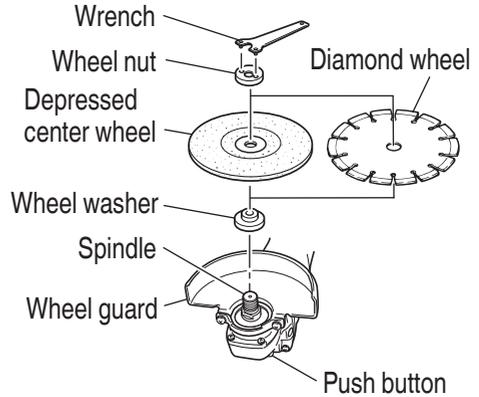

Fig. 8
ASSEMBLING AND DISASSEMBLING THE DEPRESSED CENTER WHEEL (Fig. 8)
1. Assembling (Fig. 8)
- (1) Turn the disc grinder upsidedown so that the spindle is facing upward.
- (2) Align the across flats of the wheel washer with the notched part of the spindle, then attach them.
- (3) Fit the protuberance of the depressed center wheel onto the wheel washer.
- (4) Screw the wheel nut onto the spindle.
- (5) While pushing the push button with one hand, lock the spindle by turning the depressed center wheel slowly with the other hand. Tighten the wheel nut by using the supplied wrench as shown in Fig. 8.